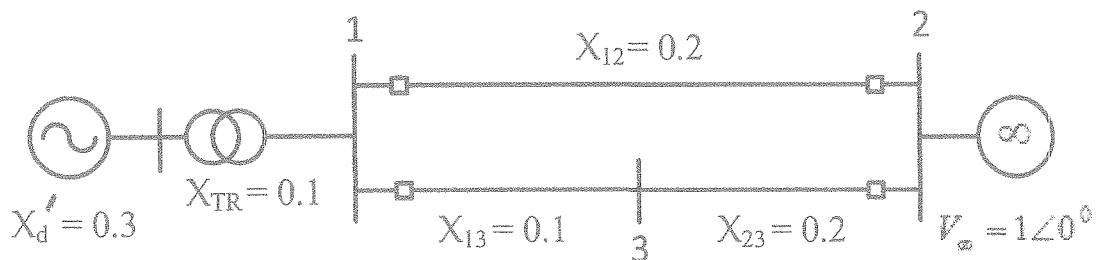

Figure Q3
b) Figure Q3 shows the single line diagram of a three phase, 60 Hz, synchronous generator connected through a transformer and two parallel transmission lines to an infinite bus. All reactances are given in per unit on a common system base. The generator is initially operating in the steady state supplying 1.0 per unit real power at 0.95 lagging power factor to the infinite bus when a permanent three phase to ground bolted short circuit fault occurs on line 1-3 at bus 3.